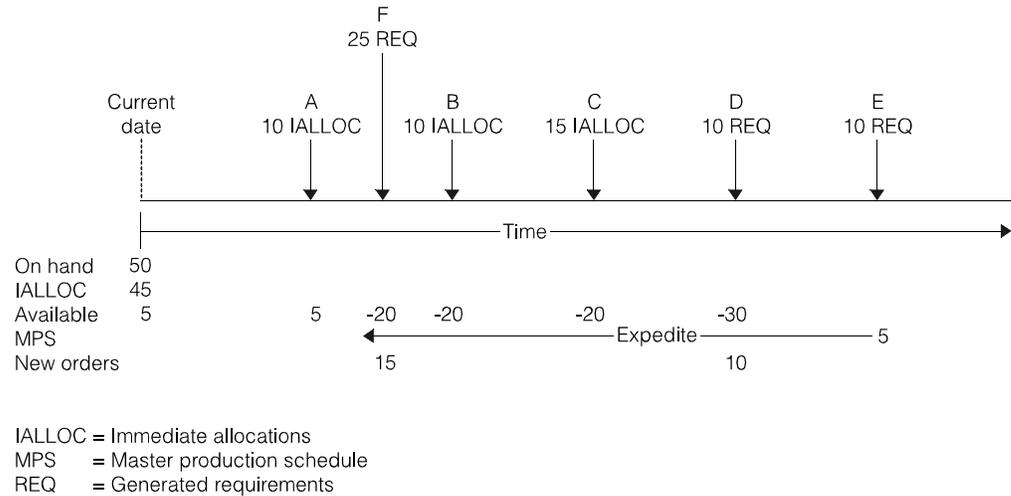
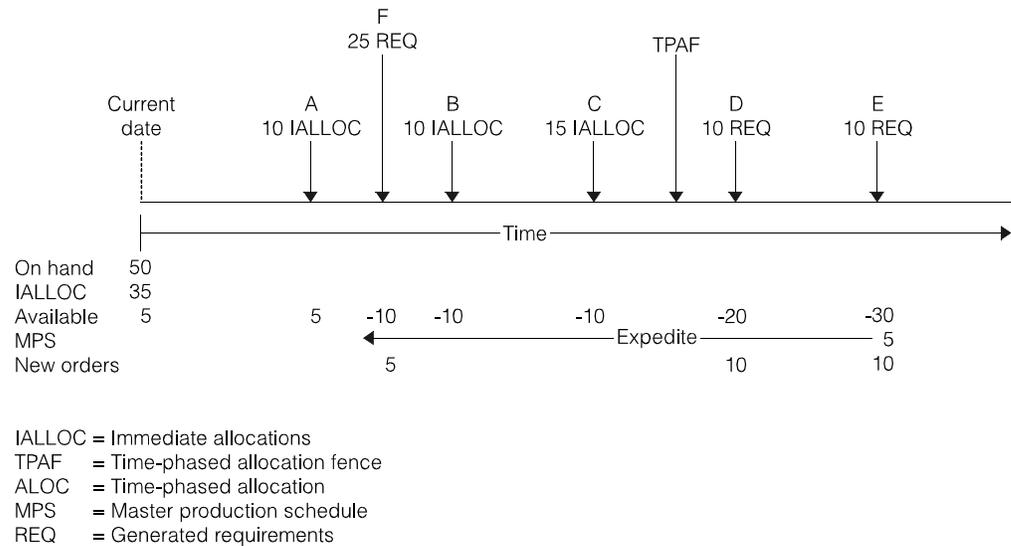
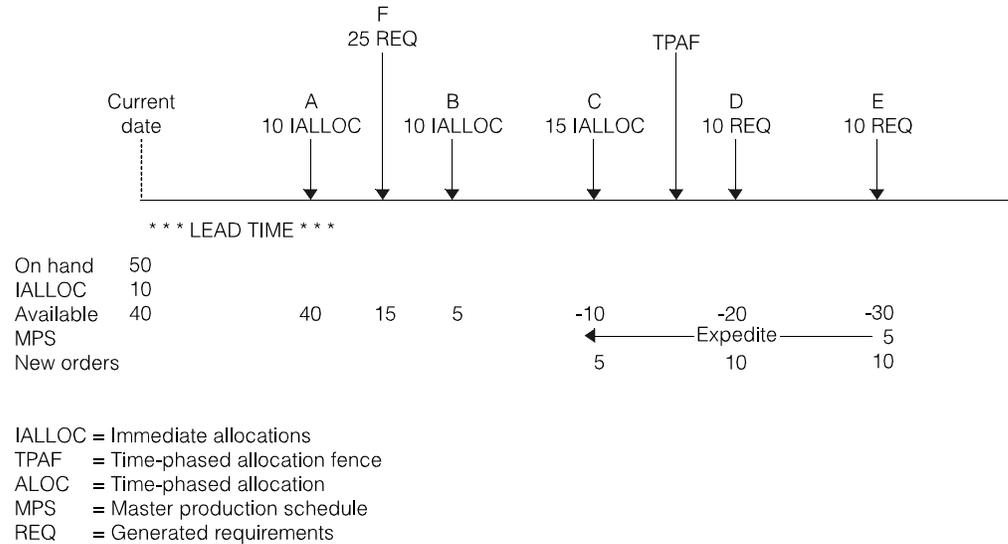

Figure 2-6. Item with a new requirement and no time-phased allocations
Figure 2-7. Item with time-phased allocations and a new requirement
Figure 2-8. Item with time-phased allocation and a lead-time shorter than the TPAF.
- Case 2: Unexpected requirements appear for an item (Figure 2-6 and Figure 2-7)
- Case 3: An item lead-time is used to find out the location of the time-phased allocation fence (Figure 2-8).
Case 2. Figure 2-6 and Figure 2-7 show two examples in which a requirement appears unexpectedly from an undefined source in a new planning run. In these examples the number of days to expedite the open order is the same. However, the new planned orders that are created tend to be further in the future when using time-phased allocations.
Case 3. Figure 2-8 shows an example for which the item's lead-time is shorter than the allocation date specified on the Maintain Horizon Values display.
Comparing Figure 2-7 with Figure 2-8, notice that in Figure 2-8 MRP creates the order for 5 units at a later date, and the number of days required to expedite the order for 5 units is lower.